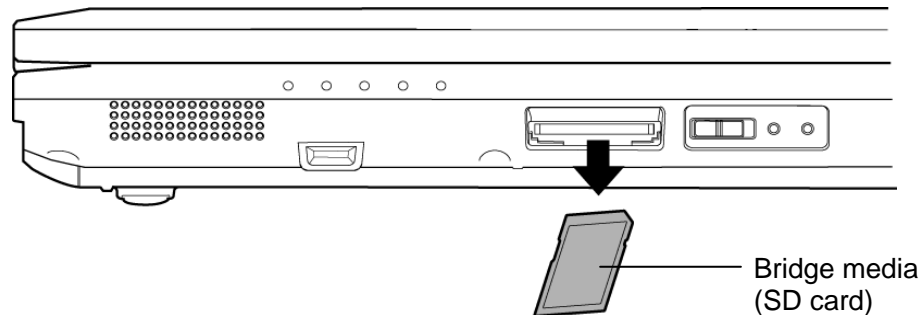

Figure 4-4 Removing the Bridge media
To remove the Bridge media, follow the steps below and refer to Figure 4-4.
1. Push the **Bridge media**. It will pop out partly when you release, so pull out the card. (For an instance, SD card is described in the figure 4-4.)
To install the Bridge media, follow the steps below and refer to Figure 4-4.